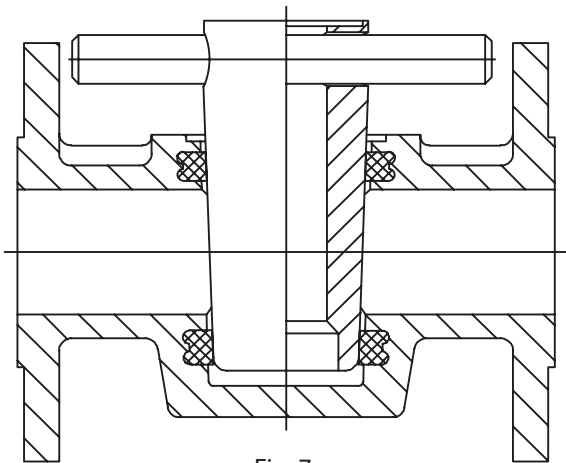
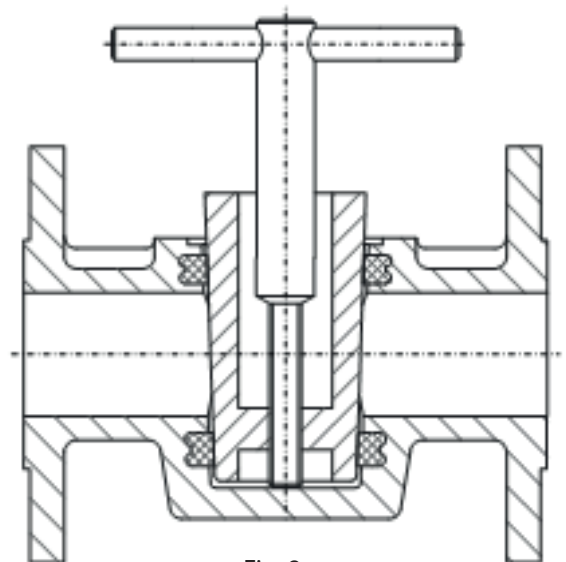
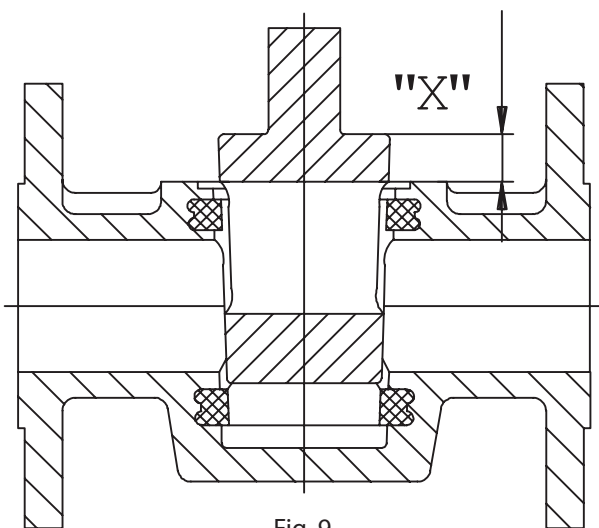

Fig. 7
Fig. 8
Fig. 9
7. Stamp Sleeve (fig.7, 8 + 9)
Stamp sleeve with embossing-plunger slowly until plug is touching bottom of body. Use resin-free grease (vaseline) if allowed. Embossing-plunger can be removed by sticking shaft through the two boreholes of the embossing-plunger, turning it and lifting it out at the same time (fig. 7). To assure correct sizing operating, insert plug and check alignment of top of plug port opening with body top (fig. 9) resp. consider projecting dimensions of plug see tab. 1. Re-stamping may be necessary. Clean sleeve and body interior.
Stamp sleeve with embossing-plunger slowly until plug is touching bottom of body. Use resin-free grease - if allowed. Plug can be removed by using the jack screw (fig. 8). To assure correct sizing operation, insert plug and consider projecting dimensions of plug (see tab. 1 and fig. 9). Re-stamping may be necessary. Clean sleeve and body interior.